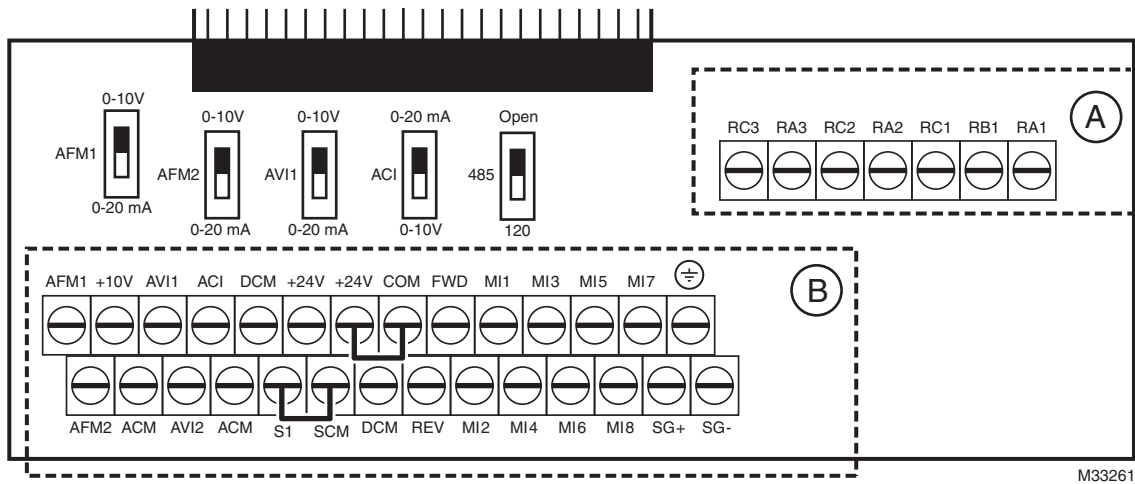

Fig. 1. Removable terminal block.
2. Figure 1: The usage of ring terminals should comply with the specifications shown in the figure.
Screw Torque: (A) 5kg-cm [4.31lb-in.] (0.49Nm) (As shown in Fig. 1 above.)
(B) 8kg-cm [6.94lb-in.] (0.78Nm) (As shown in Fig. 1 above)
- In the Fig. 1 above, the factory setting for S1-SCM is short circuit. The factory setting for +24V-COM is short circuit and SINK mode (NPN); please refer to Chapter 4 Wiring for more detail.